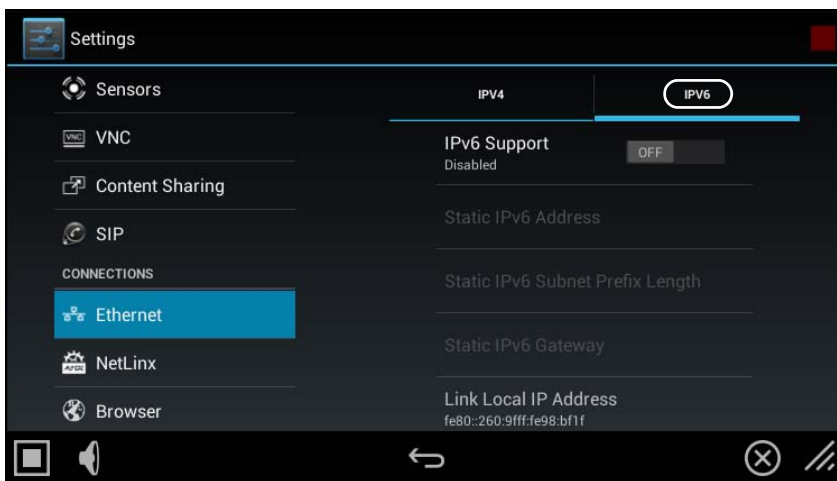

FIG. 57 Ethernet page - IPv6 tab
1. In the Ethernet page, open the *IPv6* tab (FIG. 57):